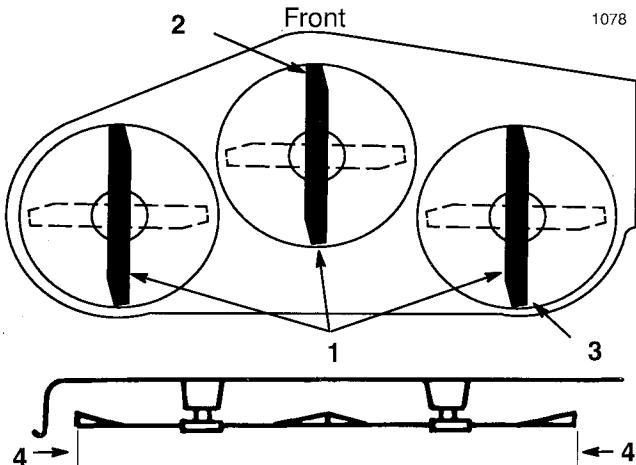

Figure 9
4. Carefully rotate blades so they are facing front and rear (Fig. 9).
5. Measure between the tip of the front blade (Fig. 9), and the tip of the rear blade to the flat surface. If the front blade tip is not 0–3/8" (0–9.5 mm) lower than the rear blade tip adjust front adjustment link.